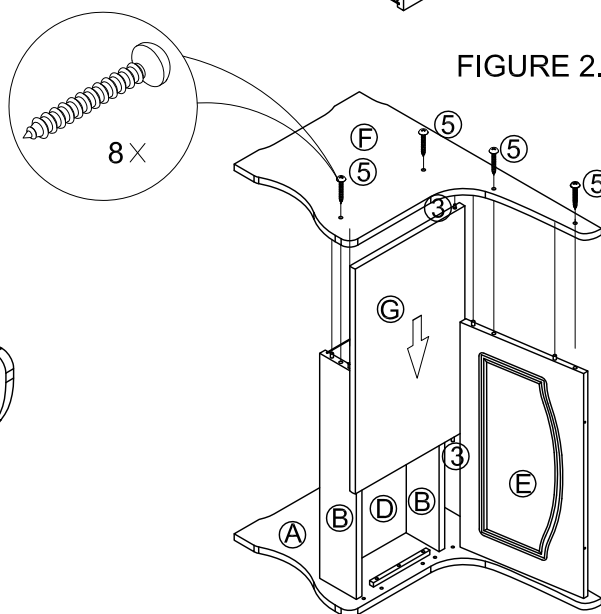

FIGURE 2.4
- 2.4 REMEMBER THAT LEG #A IS NOT SECURED IN ITS PLACE YET SO HOLDING IT TIGHT TO PARTS #E, #B AND #D, INSERT THE SINGLE BENCH SEAT COVER #G THROUGH GROOVE LOCATED ON SINGLE BENCH BACK RAIL #B AND SINGLE BENCH BACK REST #E, THEN ATTACH LEG #F TO PIECES PREVIOUSLY ATTACHED ON MIDDLE LEG #A. USING PRE-DRILLED HOLES AS GUIDE, USE (04) SCREWS ⑤ AND PHILLIPS HEAD SCREWDRIVER (NOT PROVIDED) TO SECURE, AS SHOWN IN FIGURE 2.4